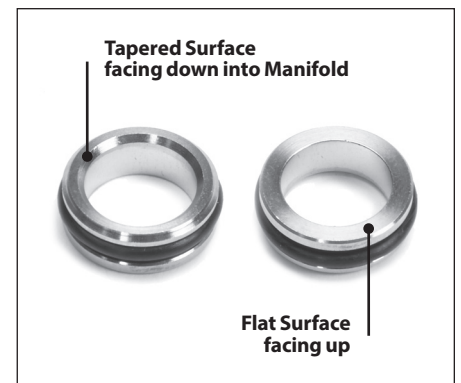

Figure 17
18. Install seat with tapered inside diameter facing downward into unloader/regulator chamber (See Figure 17).